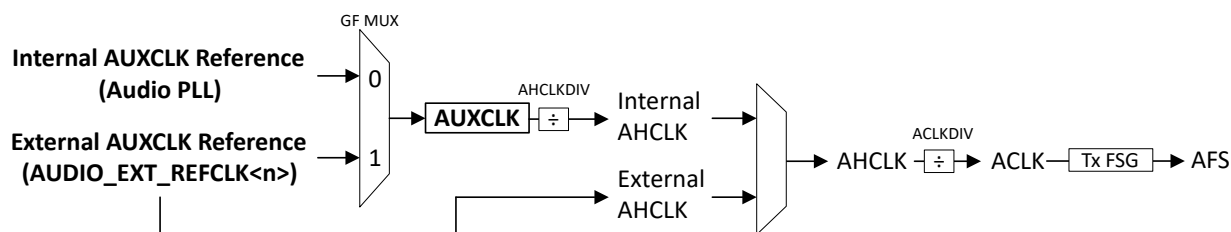
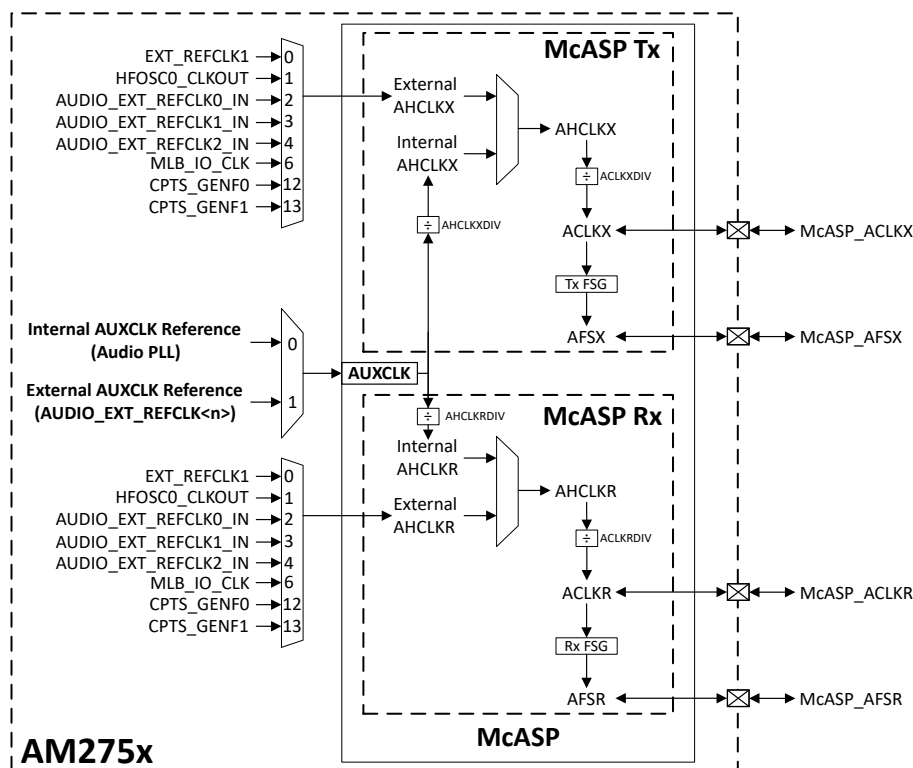

Figure 3-2. High-Level McASP Diagram
Figure 3-3. McASP Detailed Overview
Each McASP has a transmit (TX) and receive (RX) domain. Figure 3-2 shows a single clock domain that is meant to be representative of either the TX or RX domain.
Figure 3-2 shows a high-level overview of the different configuration options for McASP clocking while Figure 3-3 shows a more detailed view of the available options.